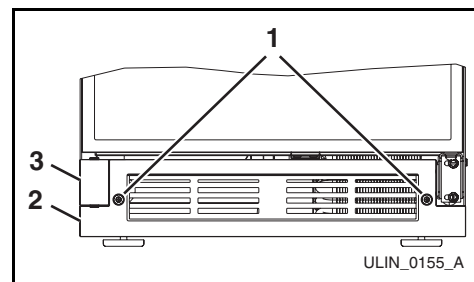

Figure 14
2. Loosen the two screws (Figure 14, 1) completely. **NOTE:** Screws are held in the grille by o-ring retainers, and will not come free of the grille.
3. Remove grille (Figure 14, 2) and grille cap (Figure 14, 3) from unit.